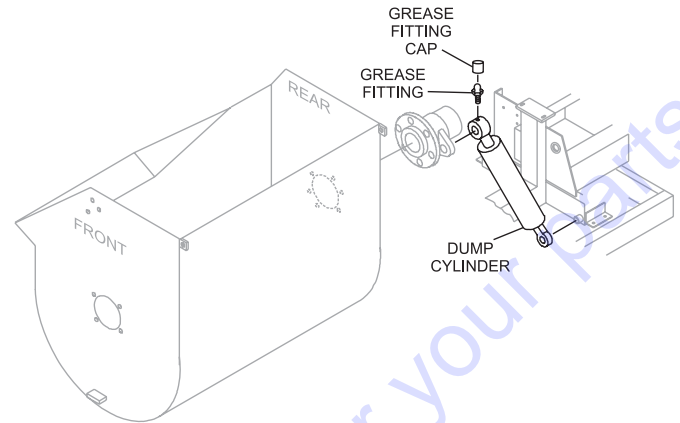

Figure 12. Grease Fittings (Dump Cylinder)
1. If your unit has hydraulic dump capability, check the zerk grease fitting at the top of the dump cylinder (Figure 12). This grease fitting lubricates the hydraulic dumping mechanism.